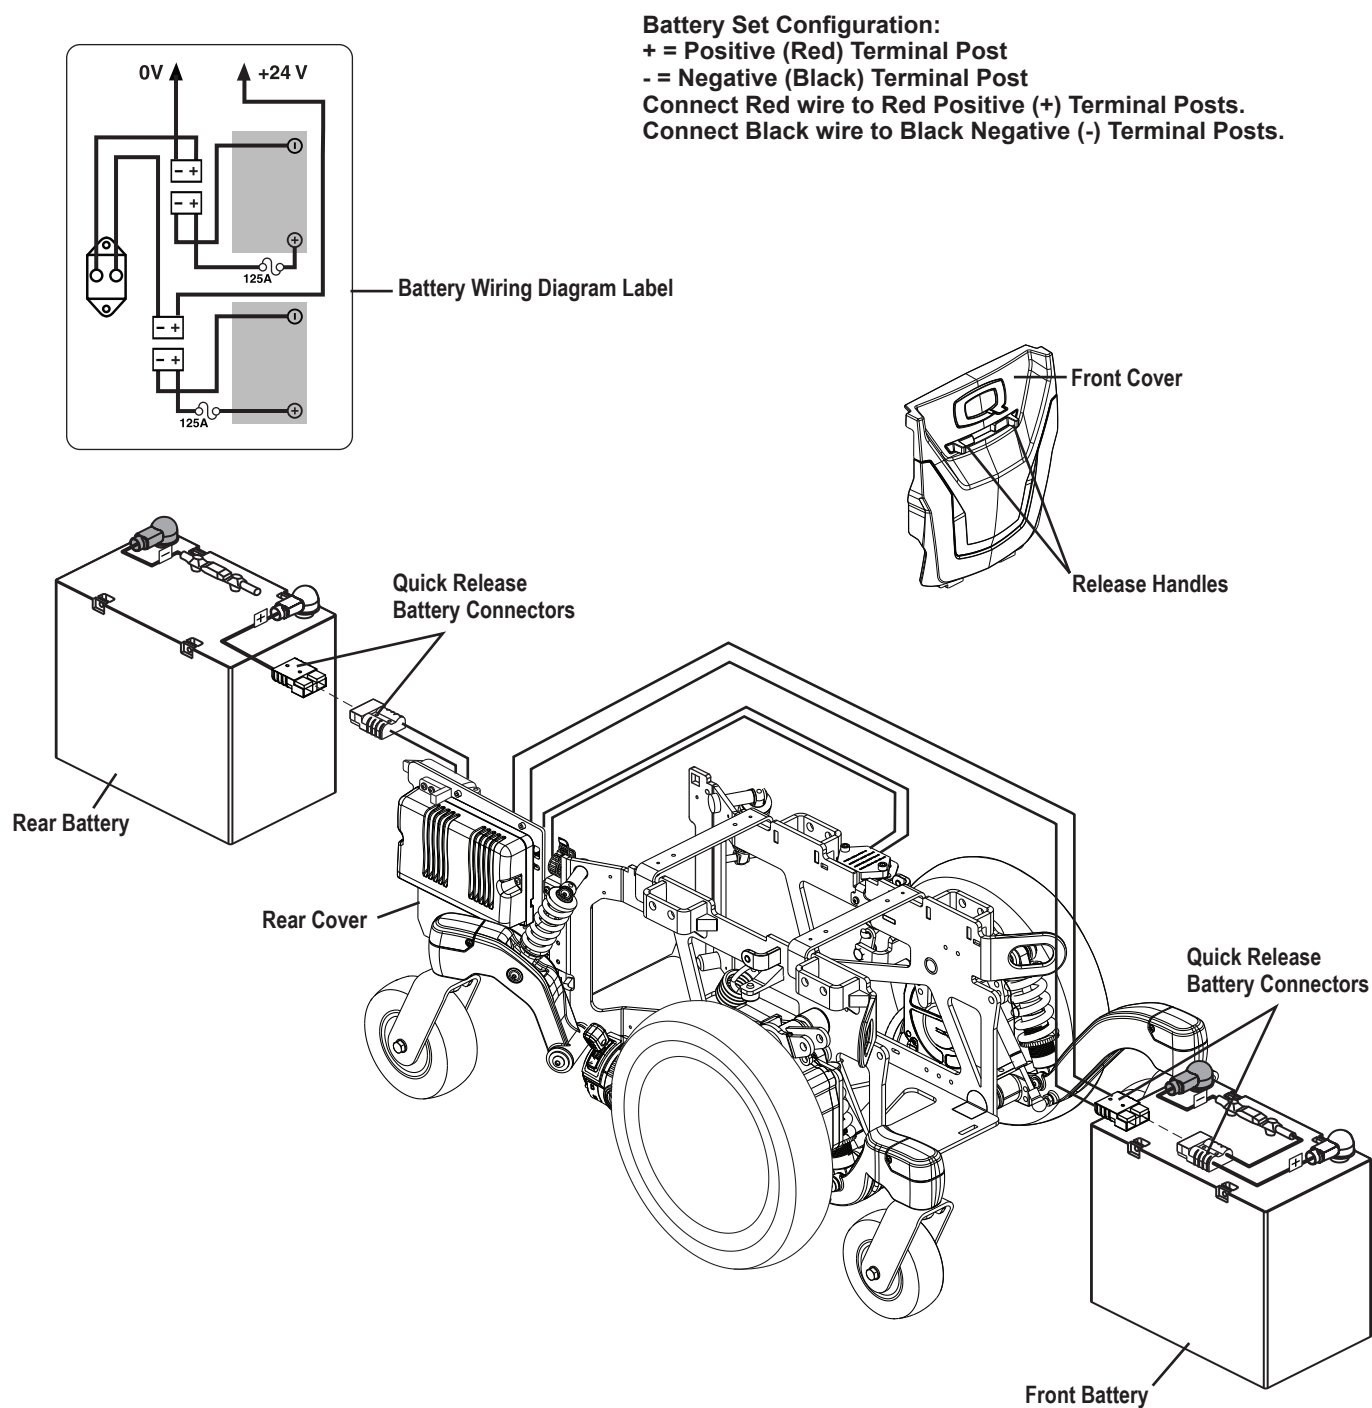

Figure 13. 22NF Battery Installation
3. Remove the front cover by squeezing the release handles (**see figure 13**) and lifting the front cover up and away from the power base.
4. Remove the rear shroud by rotating the two (2) yellow clips out toward the drive wheels. Lift the rear cover up and away from the power base.
6. Disconnect the quick release battery connectors. **See figure 13.**
9. Connect the battery harness to the new front battery according to the battery wiring diagram. **See figure 13.**
10. Connect the battery harness to the new rear battery according to the battery wiring diagram. **See figure 13.**